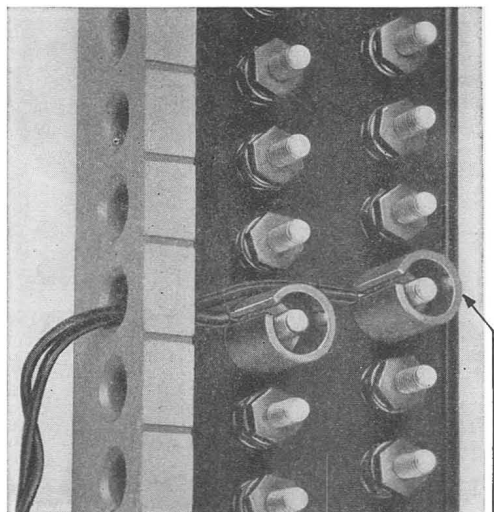

FIG. 13—USE OF NO. 1 BINDING POST INSULATORS
9.06 The No. 1 Binding Post Insulator (Brown) is used on binding posts having 3/8-inch nuts (shown in Fig. 13) or on ends of 7T fuses.